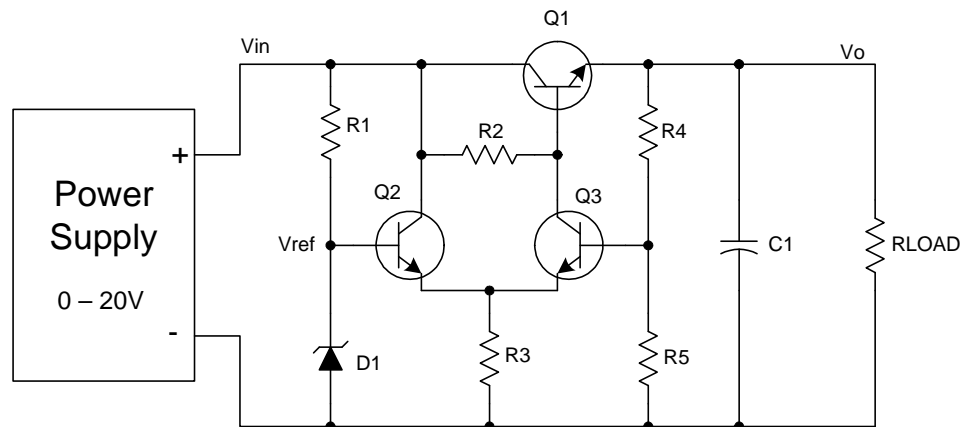

Figure 3: Series regulator
Note that the circuit in Figure 3 is a differential amplifier (Q2, Q3) and a low impedance output stage (Q1). This is a crude operational amplifier (about the simplest that can be built) with an open loop gain in the hundreds. The base of Q2 is the non-inverting input and the base of Q3 is the inverting input. The emitter of Q1 is the output. The non-inverting gain is determined by the feedback resistors, R4 and R5 and computes to be 2.0 although the effect of low open-loop gain in the hundreds will reduce that a bit. The voltage at the non-inverting input is the zener voltage of 5.1. Note that the non-inverting gain is 2 and the output voltage is nominally $2 * 5.1 = 10.2$. C1 provides high frequency stability.
- 3.1 Build the circuit in Figure 3. Do not connect a load resistor until later.